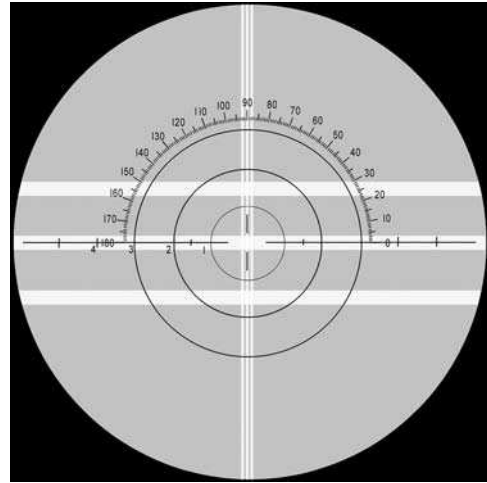

Fig. 6
5. Turn the power wheel until the illuminated cross-line target becomes clear (Fig. 6) The power scale should read “0”. If it does not, repeat the process.
2. If both the sphere lines (3 narrow lines) and cylinder lines (3 wide lines) come into focus at the same time, the lens has sphere power only and the sphere power can be read on the power wheel. (Fig. 6)